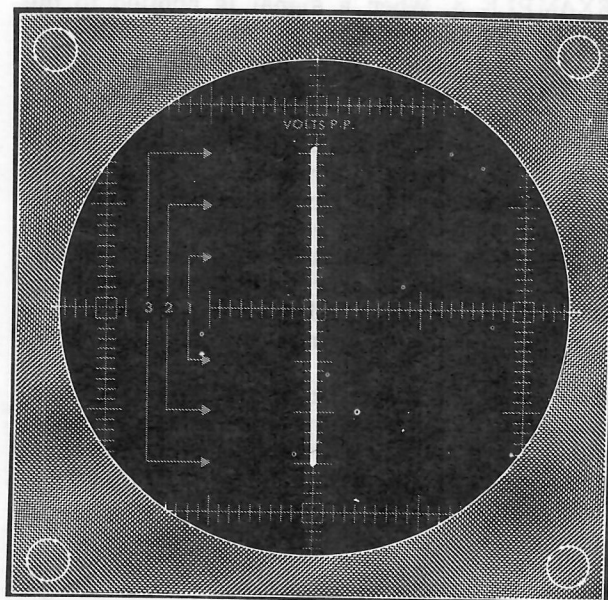

Figure 5-3
**EXAMPLE 1.** When a signal is applied to the oscilloscope, and only a vertical line (See Figure 5-3) appears on the cathode ray tube. This indicates that the difficulty is in either the sweep circuits or the horizontal amplifiers.